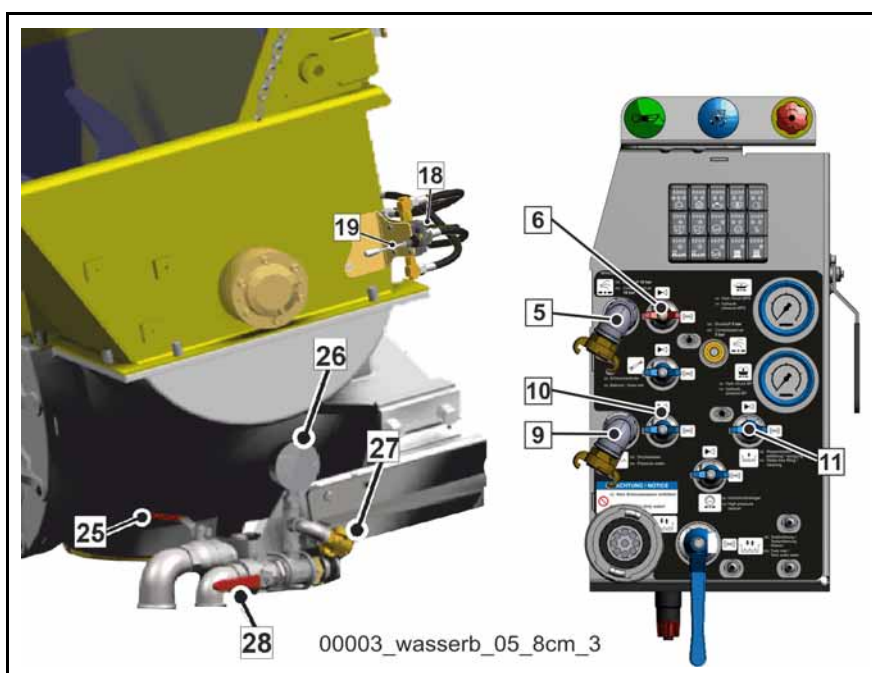
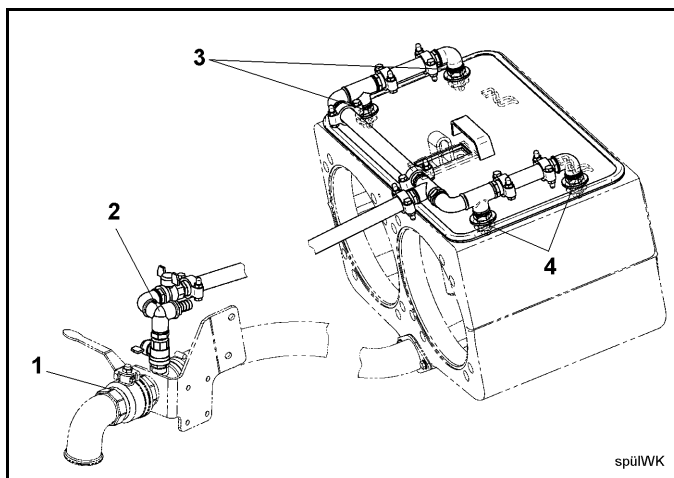

Fig. 258 Rear of the machine
Fig. 259 Flushing the water box
- Open the drain cock (25) (**Fig. 258**) on the water box at the rear of the machine.
- Start the water pump and route pressurised water into the spraying nozzles (3, 4) (Fig. 259) on the water box by switching the corresponding ball valves (11) (Fig. 258) on the rear of the machine and (2) (Fig. 259).